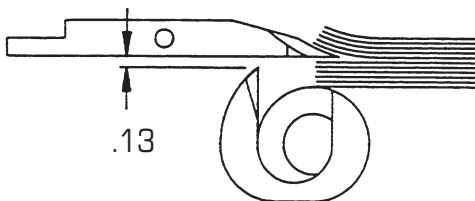

Figure 3
4. Cam #36 sets when the selecting knife will lift. Adjust the cam to get a lift of about 1/8" (.13). (Figure 3)
5. The separating knife should now enter the stack, then raise, support the stack and the claw will then select the lift. (Figure 3)